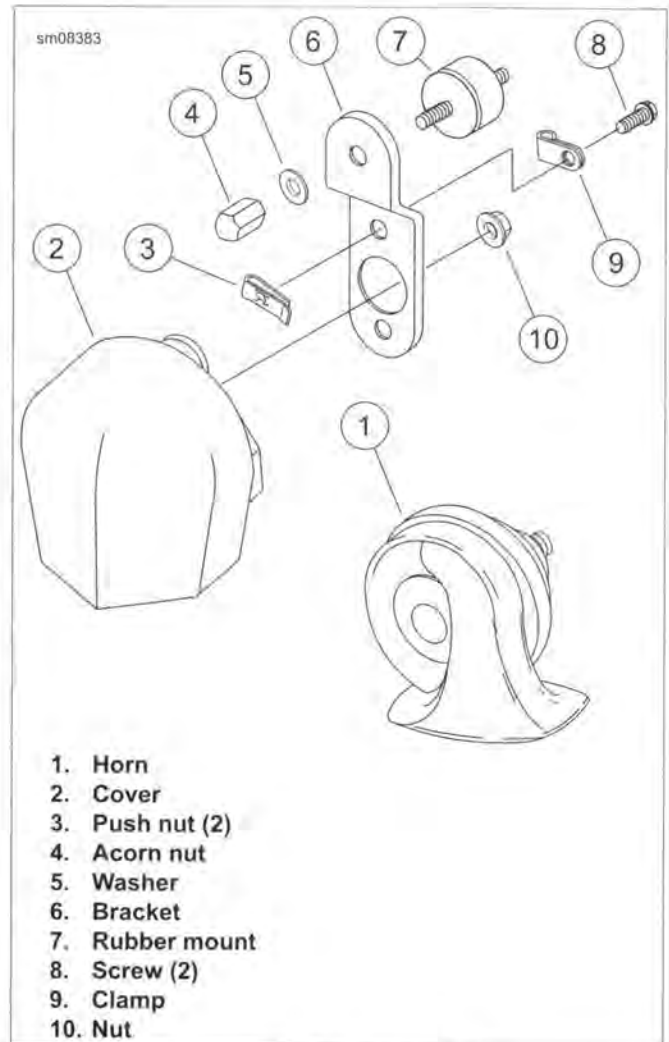
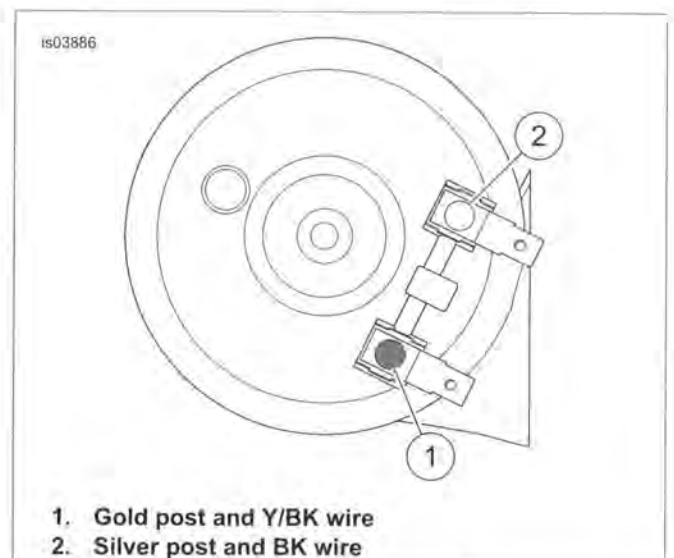
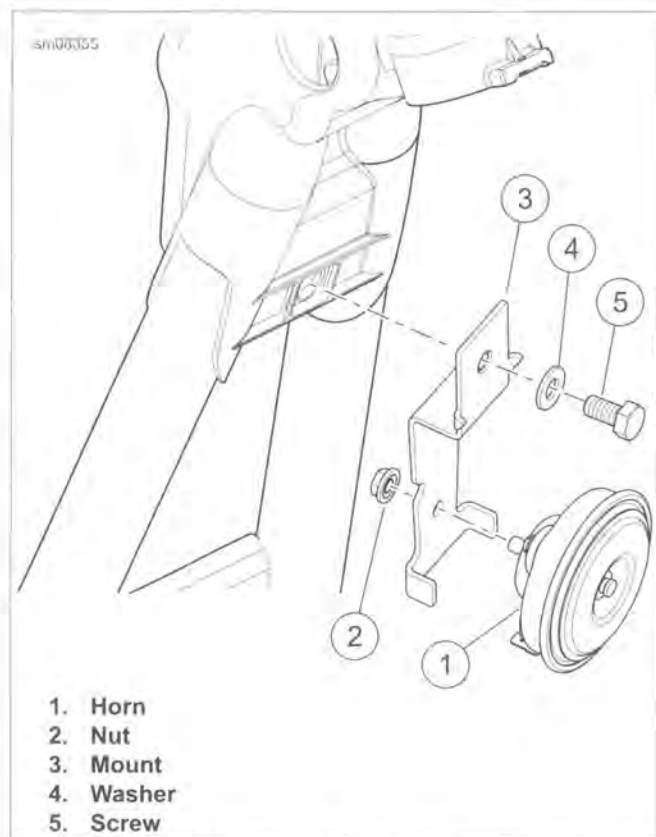

Figure 7-86. Horn: All but FXDL
Figure 7-87. Horn Wiring
Figure 7-88. Horn: FXDL
1. See Figure 7-86. Remove acorn nut (4) and washer (5) to detach horn bracket (6).
2. See Figure 7-87. Disconnect wires from posts (1, 2) on back side of horn.
3. See Figure 7-86. Remove screws (8) and nut (10) to detach horn from bracket. Remove wires from clamp (9).
4. Install **new** horn on bracket. Secure with screws (8), push nuts (3) and nut (10). Fold wires under clamp (9).
5. See Figure 7-87. Attach wiring.
- a. Connect Y/BK wire to gold post (1).
- b. Connect BK wire to silver post (2).
6. See Figure 7-86. Attach horn to vehicle using washer (5) and nut (4). Tighten to 120-180 **in-lbs** (13.6-20.3 Nm).
1. See Figure 7-88. Remove screw (5) and washer (4) to detach mount (3).
3. See Figure 7-88. Remove nut (2) to detach horn from mount.
6. See Figure 7-88. Attach horn mount using washer (4) and screw (5). Tighten to 13-15 ft-lbs (17.6-20.3 Nm).